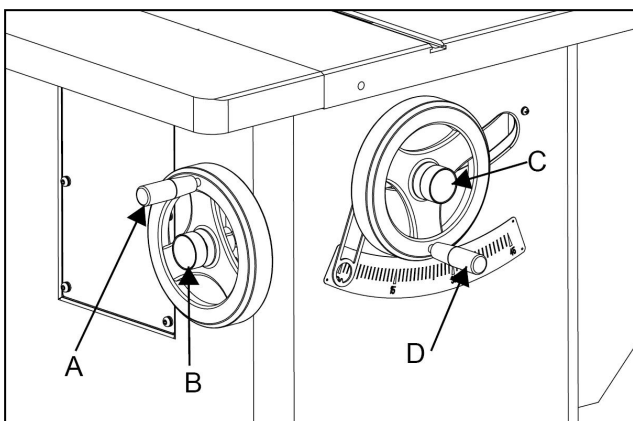

Fig.24
To adjust the blade elevation : Loosen the lock knob (C) as shown in **Fig.24** and turn the elevation hand wheel (D). When the desired height is obtained, re-tighten the knob (C). The blade should be raised 1/8" to 1/4" above the top surface of the material being cut.
To adjust the blade tilting : Loosen the lock knob (B) and turn the hand wheel (A). When the desired angle is obtained, re-tighten the knob (B). Refer to **Fig.24**.